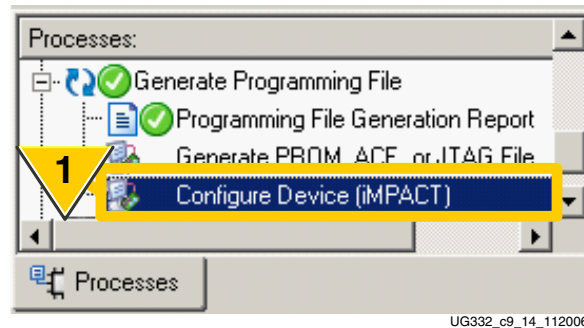

Figure 9-7: Double-click **Configure Device (iMPACT)**
1. From within the ISE Project Navigator, double-click **Configure Device (iMPACT)** from the Processes pane, as shown in Figure 9-7.